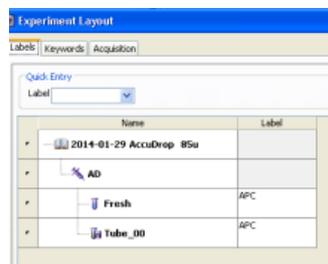

Figure B4 Experiment Layout
14. For adding a short description of each color (recommended) select Experiment > Experiment Layout. Use the labels tab (Fig. B4).